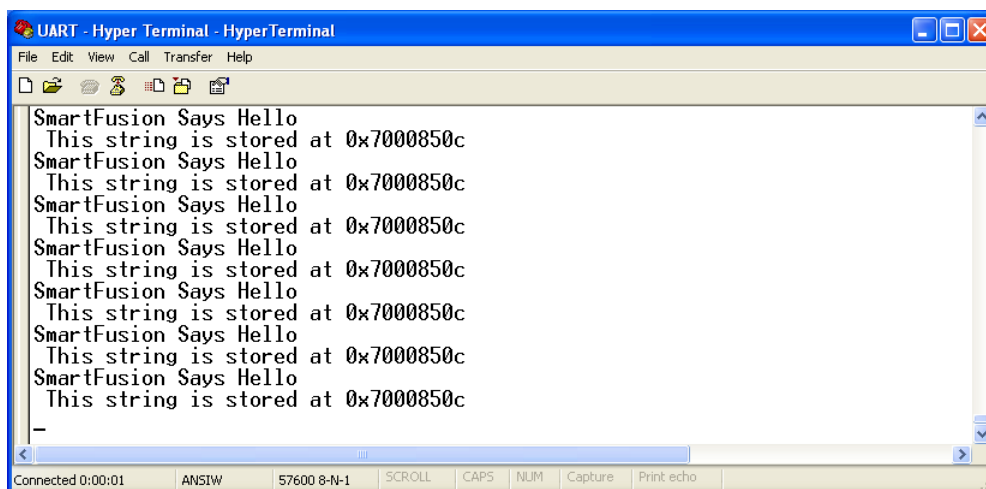

Figure 13 • Screen-shot of HyperTerminal with Memory Location of Global Variable
4. Start HyperTerminal with the baud rate set to 57600, 8 bits data, 1 stop bit, no parity, and no flow control. The application then starts printing the memory location of the global variable on HyperTerminal. Figure 13 shows the screen shot of HyperTerminal with the memory location of the global variable.